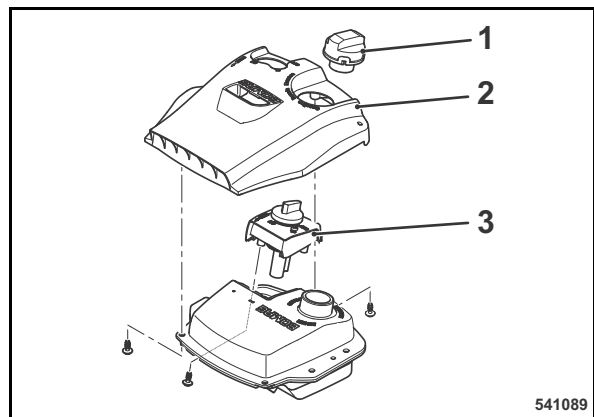

Fig. 65
- Clean the area around the tank cover, unscrew the tank cover (1) (Fig. 65).
- Unscrew 3 fastening screw from the cover (2) and take off the cover.